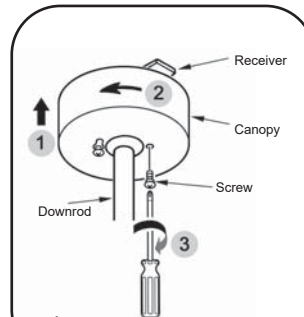

Fig.17
Step 2. Slide the canopy up towards the hanger bracket and place the key hole on the canopy over the screw on the hanger bracket, turn canopy until it locks in place at the narrow section of the key holes. (Fig. 17)
Step 3. Align the circular hole on canopy with the remaining hole on the hanger bracket, secure by tightening the two set screws.(Fig. 17)